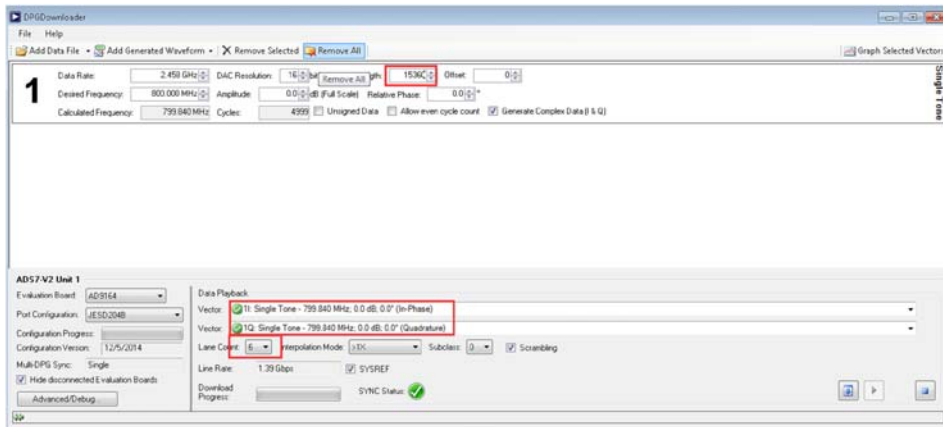

Figure 19. Record Length When Lane Count = 3 or 6
- If SYNCOUT± stays high, as indicated by a green check mark next to SYNC Status (see Figure 19), the link is functional. However, if the signal spectrum appears to be incorrect, it is possible that the physical lanes were not mapped correctly.
Note that when selecting a Lane Count value of either 3 or 6, Record Length must be set to a value that is a multiple of 3. Otherwise, the spectrum does not output correctly. An example is shown in Figure 19.